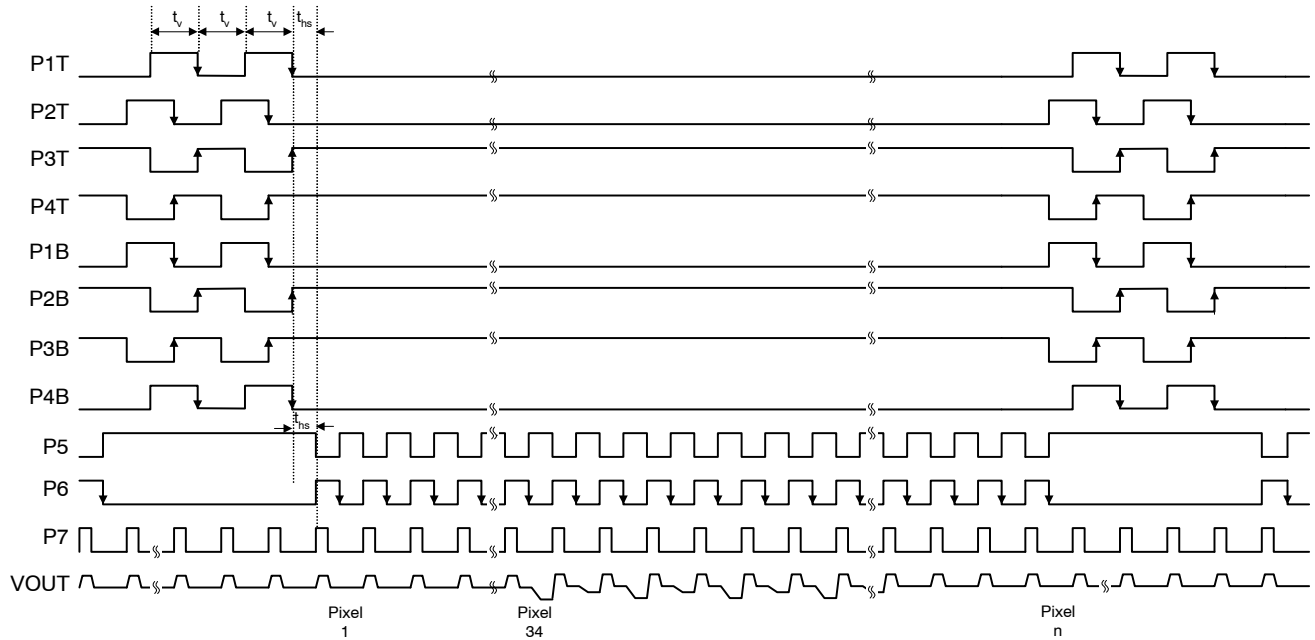

Figure 25. Line and Pixel Timing – Vertical Binning by 2
1. Refer to Figure 25: VCCD Clock Rise Time, Fall Time and Edge Alignment